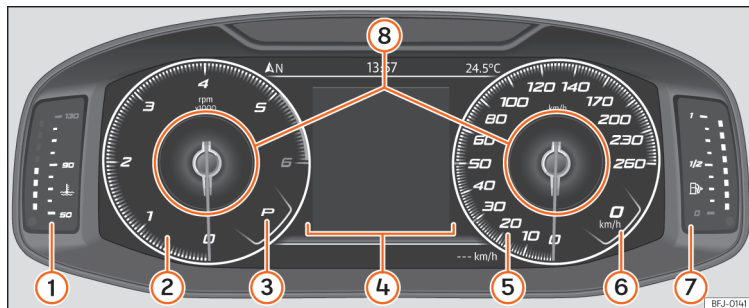

Fig. 66 SEAT Digital Cockpit on the instrument panel (classic view).
In the **Classic** and **Navigation** views it is possible to customise the information displayed under **Information profiles** »» **Fig. 66 ⑧**.
»» Fig. 66.